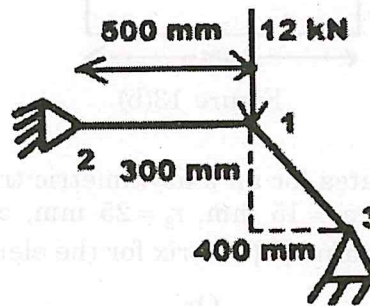

Figure 16(b)
- (b) For the two bar truss shown in the Figure 16(b), estimate the displacements of node one and the stress in element 1-3.